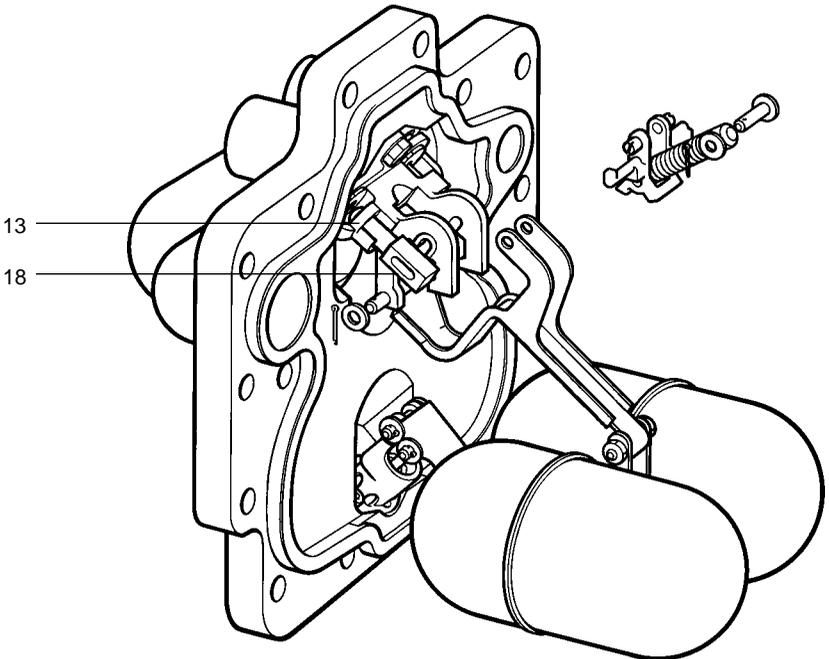

Fig. 5
**Note:** There is no need to remove the spring from the actuator arm, as both these items are supplied fully assembled in the spares kit (See Fig. 5).
10. **Fitting the new spring and actuator arm is the opposite to removal.** Remember to compress the small spring within the exhaust valve (item 18) before refitting to the tanged spigot of the new actuator arm.
11. Ensure the actuator is correctly aligned and located within the slots of the pump bracket (item 13).
13. Always use new split pins and washers when refitting the spring retaining shaft (Y) and pump pivot shaft (X).
16. Carefully reconnect the motive steam supply and the exhaust lines to the connections marked (IN) and (OUT). The APT14 is now ready to recommission.